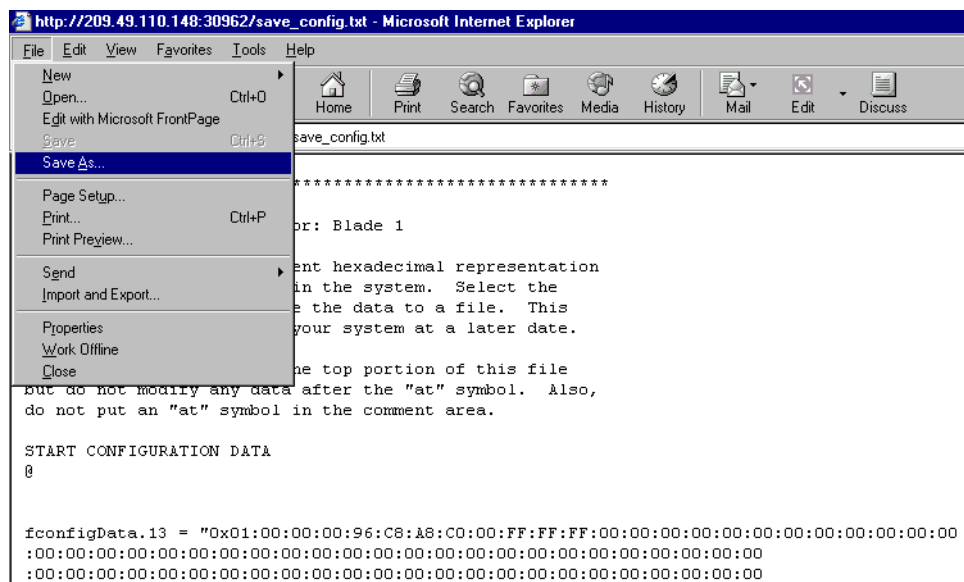

Figure 63. Saving the access server flash memory configuration data as a text file
– To save the displayed data as a text file, use your browser's **Save** function (see figure 63). Using Netscape or Internet Explorer, for example.